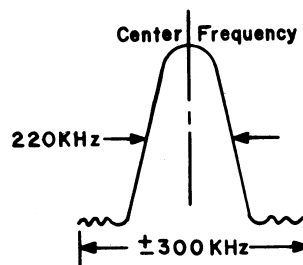

Figure 4
3. Tune the FM Generator, modulated  $\pm 300\text{KHz}$  @ approximately  $20\mu\text{V}$  output level, to the receiver frequency. Connect an RF Detector Probe to Test Point 1, TP-1 (Pin 1 of IC201, HA1137) and center the FM IF response on the oscilloscope. The FM IF bandpass characteristics are now being displayed. Adjust the core of the converter FM IF transformer T101 for maximum gain and symmetry, as illustrated in Figure 4 below.